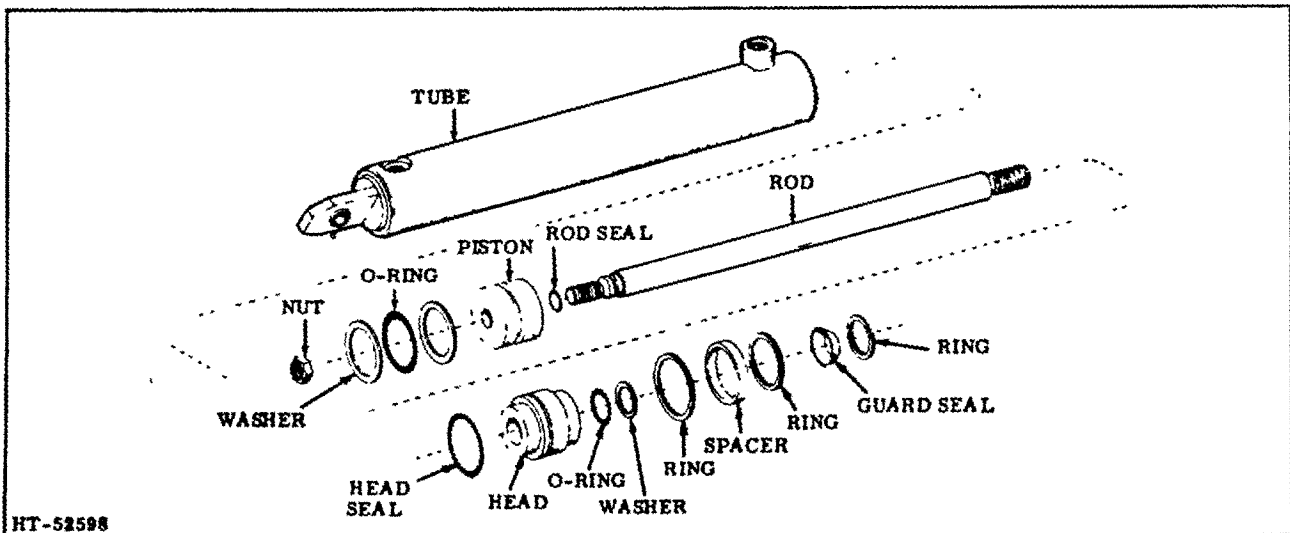

Figure 6. Power Steering Components
4. Remove cylinder from its connection at truck frame. (Figure 6.)
2. To remove the steer wheel tire, tube and flap, remove the six (6) bolts, nuts and lockwashers (inside the inner rim) and separate the inner and outer rims. (See Figure 6.)